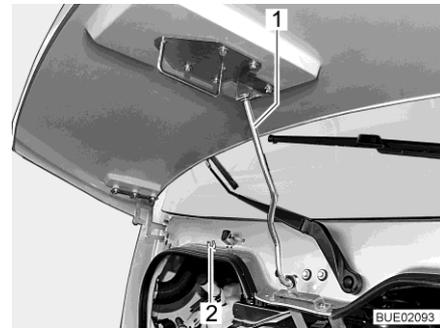

Fig. 51 Securing rod (Ixeo I)
- Take securing rod (Fig. 51,1) out of holder (Fig. 51,2) and hook into retainer on the bonnet.
- Unhook securing rod (Fig. 51,1) from retainer on the bonnet and press into holder (Fig. 51,2).